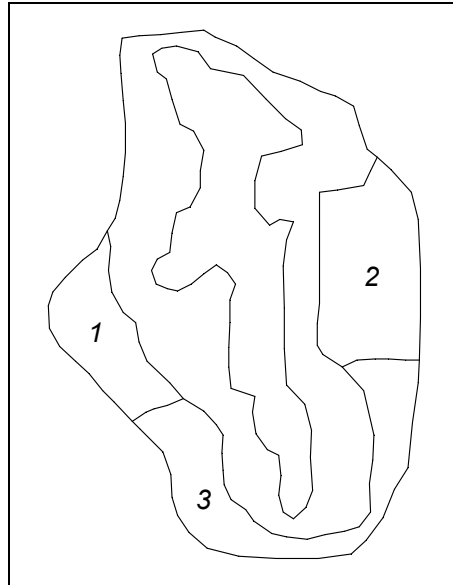

Figure 4. Polygons to be Selected.
3. While holding the *Shift* key, select polygons 1 and 2 shown in Figure 4.
7. Double click on polygon 3 shown in Figure 4.